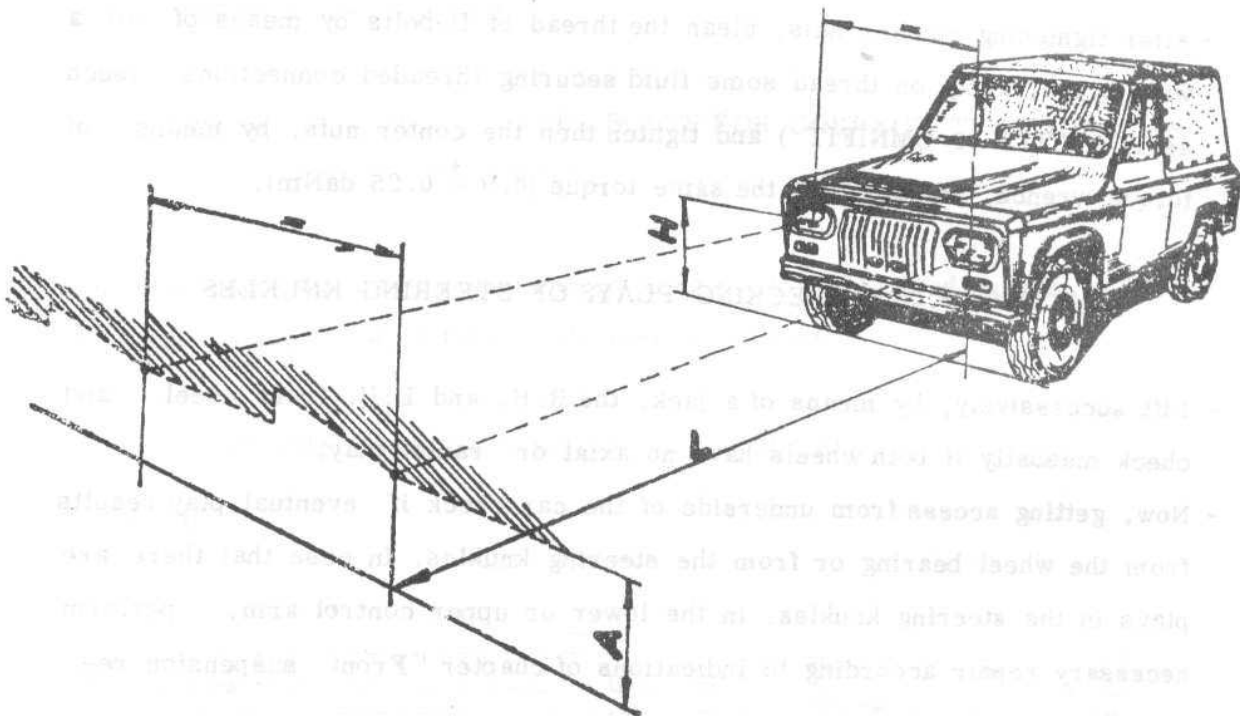

Fig.2.58. HEADLAMP BEAMS CORRECT POSITION
- Turn adjusting screw to the right or to the left until the left angle corner of asymmetrical beam reaches the two vertical marked lines (see fig.2.58).